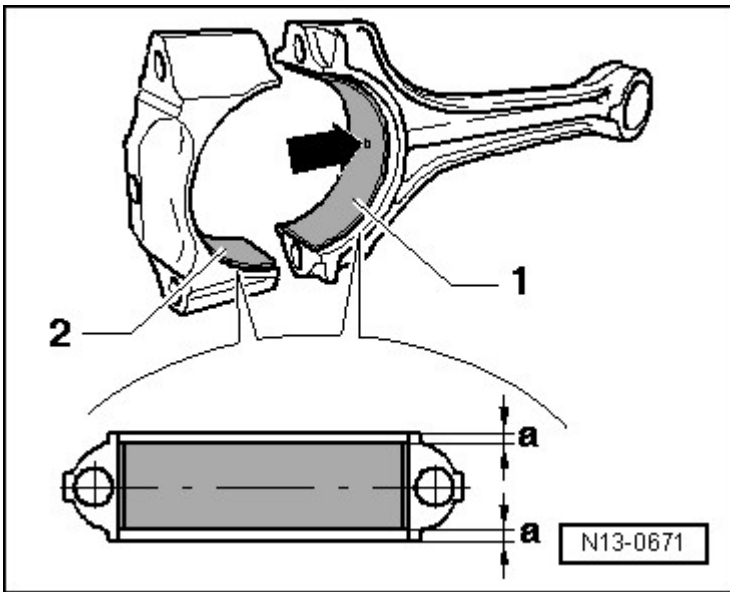

Fig. 18: Bearing Shells - Installed Positions
- Installed location, refer to **Fig. 18**